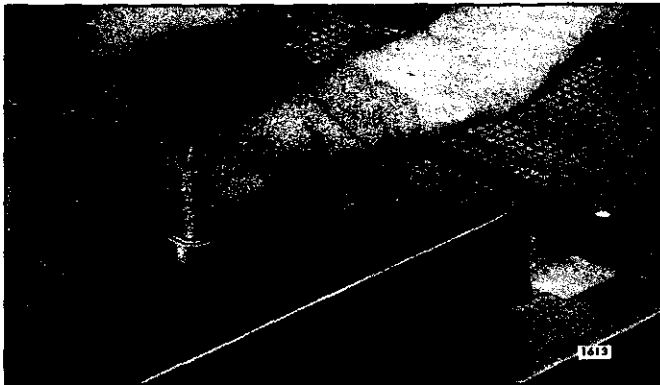

Fig. 25 - Lapping Spray Tip on Lapping Blocks J 22090
3. Place the part to be lapped flat on the block (Fig. 25) and, using a figure eight motion, move it back and forth across the block. Do not press on the part, but use just enough pressure to keep the part flat on the block. It is important that the part be kept flat on the block at all times.